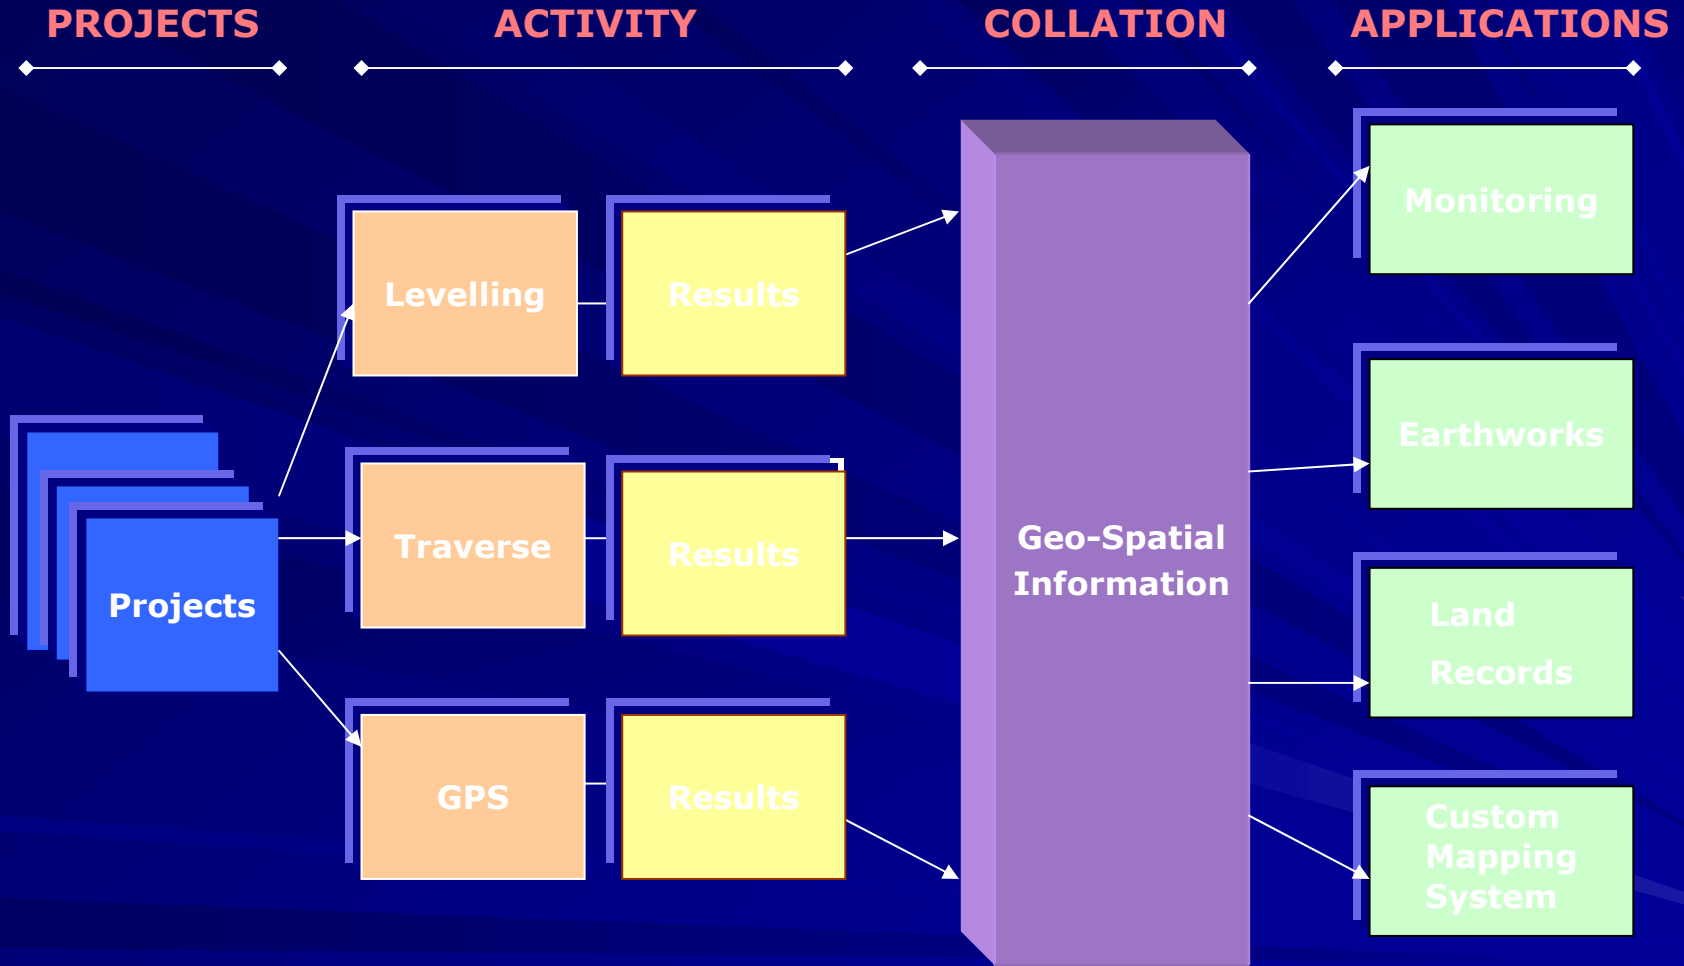

Fig. 1
- With provision for GPS data/results and emphasis on survey data management, SMS is a logical platform for efficient processing and use of survey information, Fig. 1.